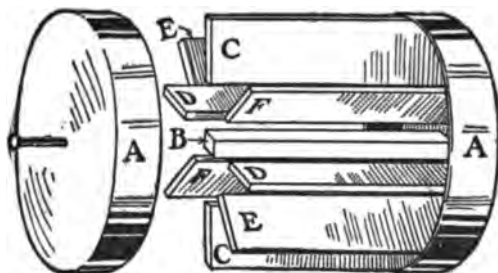

Fig. 72
**The Water-Motor Wheel.** Procure two baking-powder can covers for the ends of the water-motor wheel (A, Fig. 72), a cigar-box out of which to make the wheel paddles, and a stick  $\frac{1}{4}$  inch square and 5 inches long for the wheel axle (B, Fig. 72).
with tacks or brads driven through the cover into the ends of the strips. Take another pair of strips and fasten them to the same cover, in a similar manner, at right angles to pair *C* (*D*, Fig. 72). Then tack the pairs of strips *E* and *F* to the cover halfway between pairs *C* and *D*. With the paddles in position, locate the exact center of the end of the
FIGS. 72 and 73. — Details of Water-Motor Wheel.